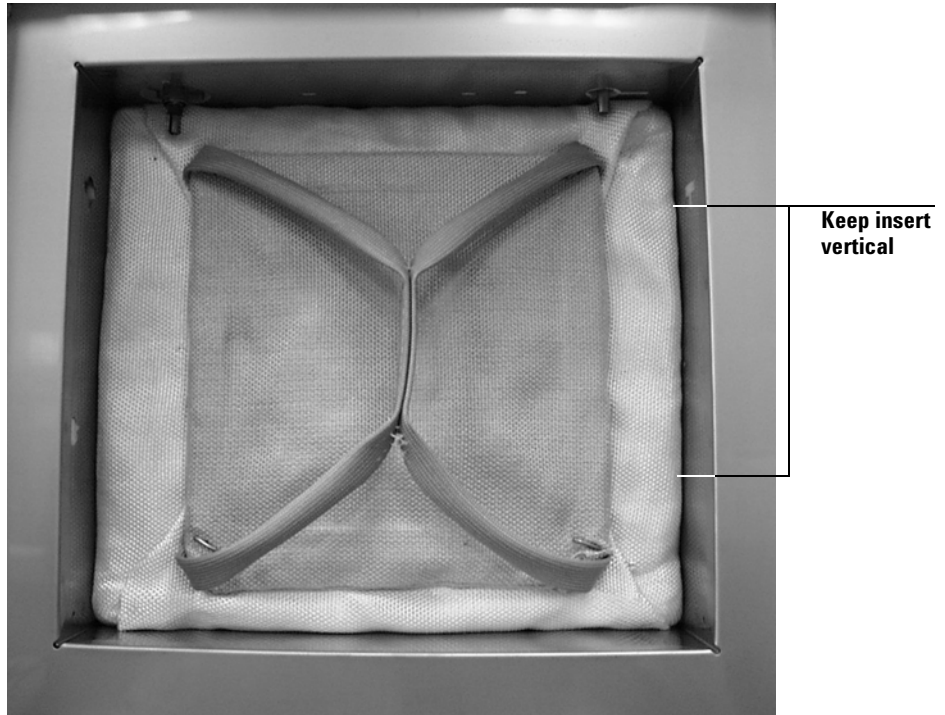

Figure 4 Oven insert installed in the oven
- 3 Push the bottom of the insert into place as shown in Figure 4. Keep the insert upright as shown.